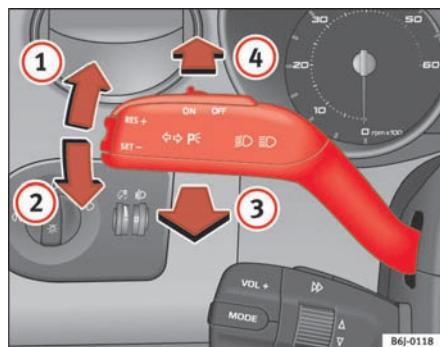

Fig. 56 Turn signal and main beam headlight lever
- Move the lever all the way up ⇒ fig. 56 ① to indicate **right**, and all the way down ② to indicate **left**.
- Press the lever forward ⇒ fig. 56 ④ to switch on the main beams.